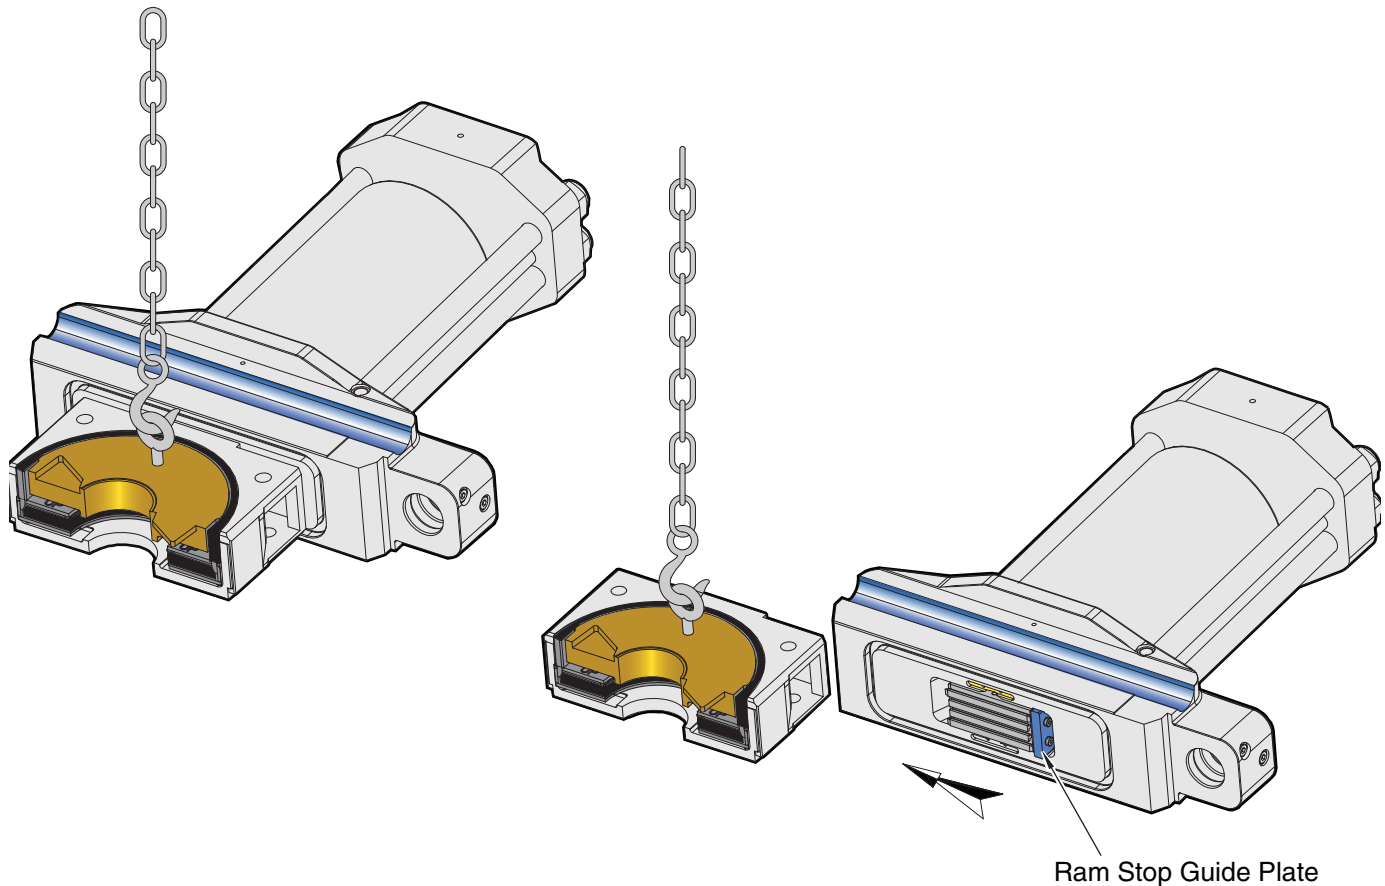

Figure 5-80. Sliding Direction of Ram Assembly
- Remove the ram from the ram shaft by sliding it off horizontally (see Figure 5-80).
- Mount the ram assembly on the ram foot. Slide the ram horizontally toward the stop guide plate until it stops (see Figure 5-80 on page 5-102).